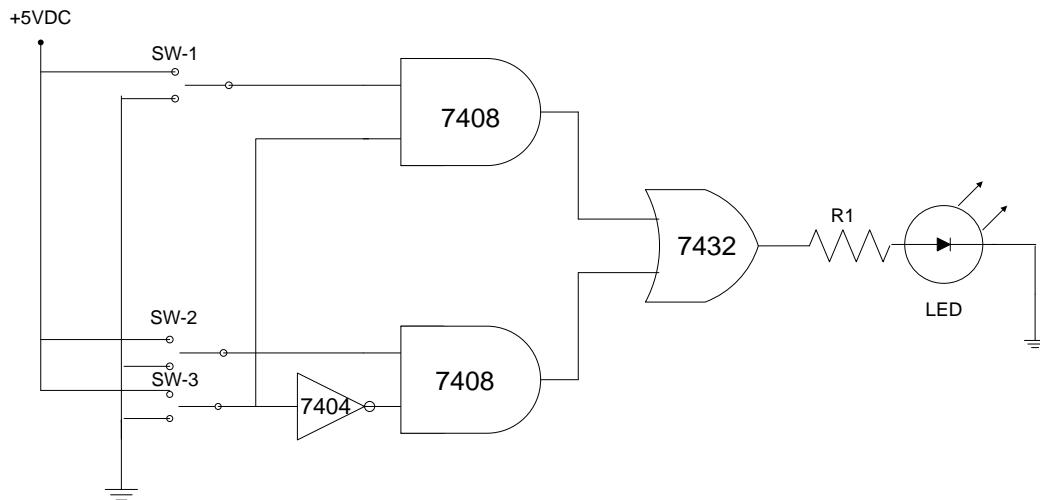

Figure 61: Simplified Three State Logic Circuit
1. Assemble the circuit as shown in the diagram Figure 61.